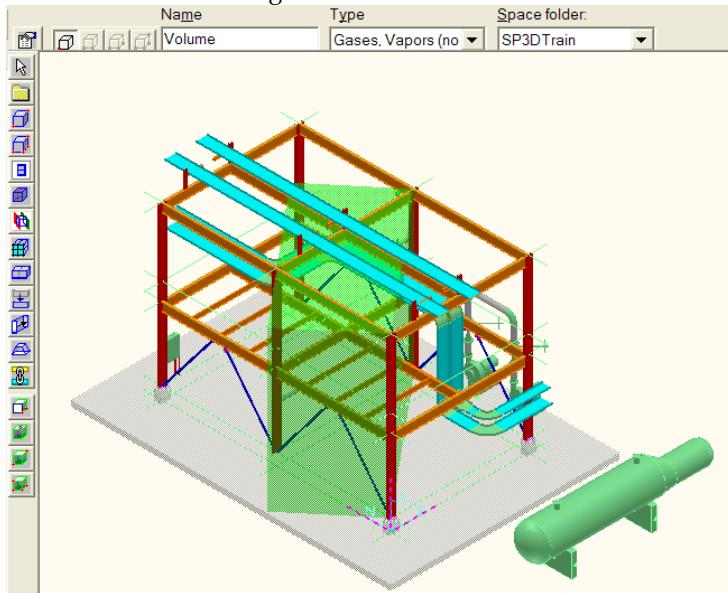

Figure 10: Output: Volume Placed by Four Points
Place a volume by using the **Place Volume by Four Points** command using the same workspace as in the **Place Volume by Two Points** example. The view of the model after placing the volume should look like Figure 10.
6. Review the volume that is created (see Figure 10) and then **Undo** or **Delete** to remove this practice volume.